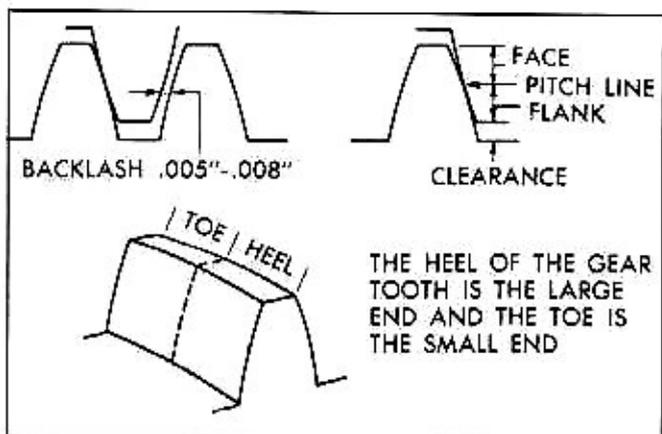
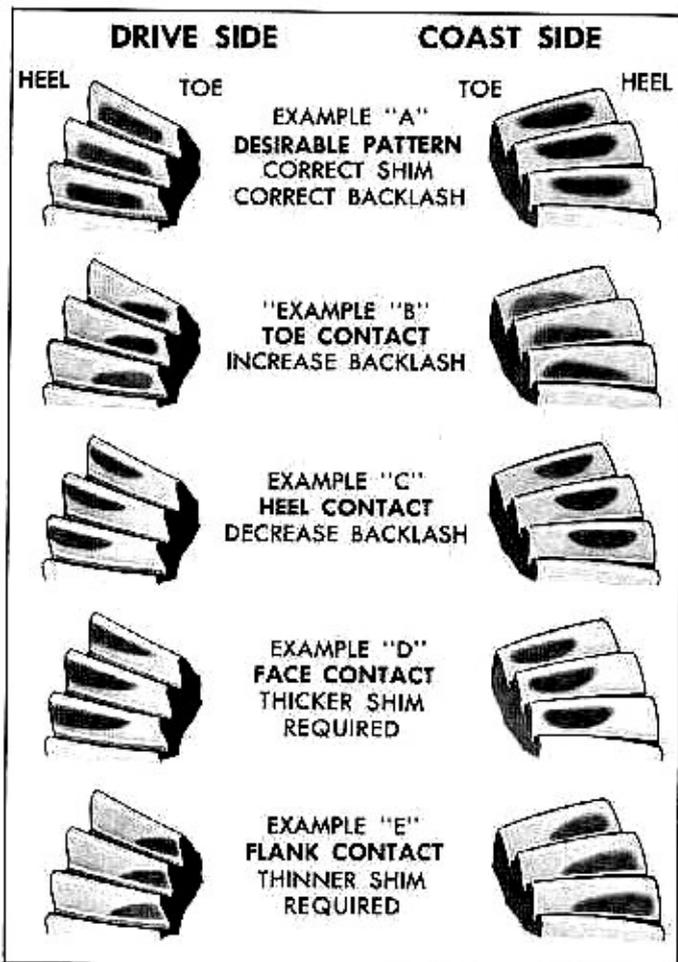

Fig. 13—Gear Tooth Nomenclature
Fig. 14—Ring Gear Contact Patterns
4. Inspect the contact pattern produced and analyze the results relative to the following data. Figure 13 provides gear tooth nomenclature and Figure 14 illustrates the various contact patterns which may be experienced.
Figure 14 shows correct and incorrect contact patterns. For illustrative purposes, “coast” side of gear contact is shown. Drive and coast side of gear teeth will have identical contact patterns.